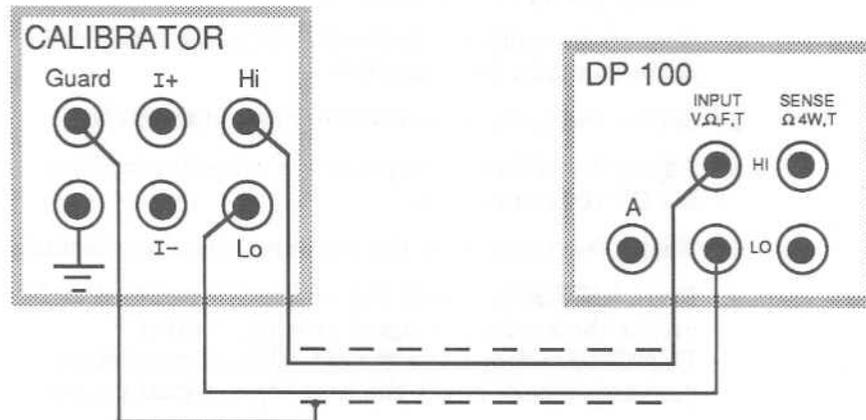
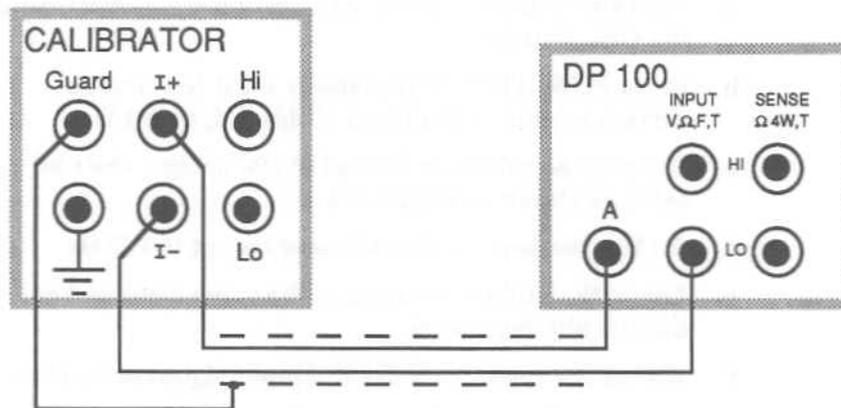
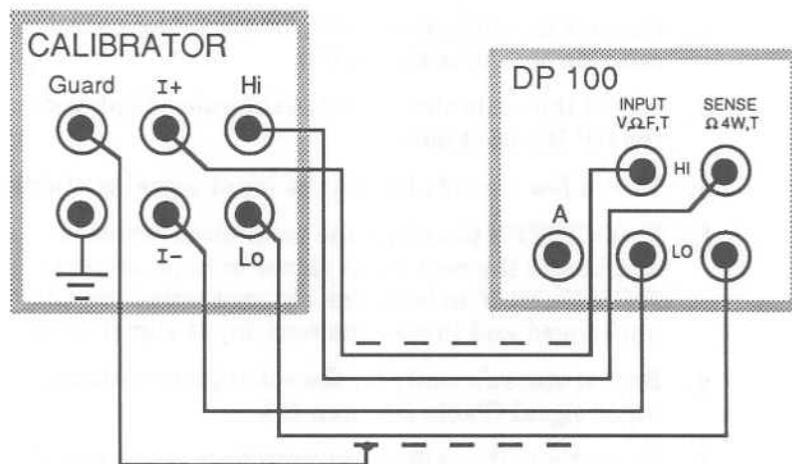
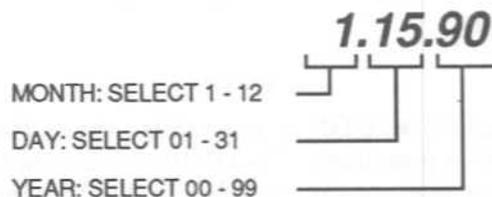

Figure 6-8. Calibrator-to-DP 100 Connections for AC/DC Volts, Resistance (2T), and Frequency
Figure 6-9. Calibrator-to-DP 100 Connections for AC/DC Current
Figure 6-10. Calibrator-to-DP 100 Connections for 4-Terminal Resistance
Figure 6-11. Calibration Due Date Format
- (1) Calibrate dc volts.
- b. Connect the calibrator to the DP 100 using a shielded cable as shown in Figure 6-8.
- g. To continue the calibration procedure, go to step (2)*d*. To conclude the calibration procedure at this point, press **FUNCTION ▼** repeatedly until the CAL due date is displayed (Table 6-4, step 24) and go to step (8)*c*.
- (2) Calibrate ac volts.
- c. Connect the calibrator to the DP 100 using a shielded cable as shown in Figure 6-8.
- i. To continue the calibration procedure, go to step (3)*c*. To conclude the calibration procedure at this point, press **FUNCTION ▼** repeatedly until the CAL due date is displayed (Table 6-4, step 24) and go to step (8)*c*.
- (3) Calibrate dc current.
- c. Connect the calibrator to the DP 100 using a shielded cable as shown in Figure 6-9.
- h. To continue the calibration procedure, go to step (6)c. To conclude the calibration procedure at this point, press FUNCTION ▼ repeatedly until the CAL due date is displayed (Table 6-4, step 24) and go to step (8)c.
- (6) Calibrate 4-terminal resistance
- c. Connect the calibrator to the DP 100 using a shielded cable as shown in Figure 6-10.
- h. To continue the calibration procedure, go to step (7)*c*. To conclude the calibration procedure at this point, press FUNCTION ▼ repeatedly until the CAL due date is displayed (Table 6-4, step 24) and go to step (8)*c*.
- (7) Calibrate frequency.
- g. To conclude the calibration procedure, go to step (8)c.
- (8) Entering a CAL Due Date.
- b. Press FUNCTION ▼ repeatedly until the CAL due date is displayed (Table 6-4, step 24). See Figure 6-11.